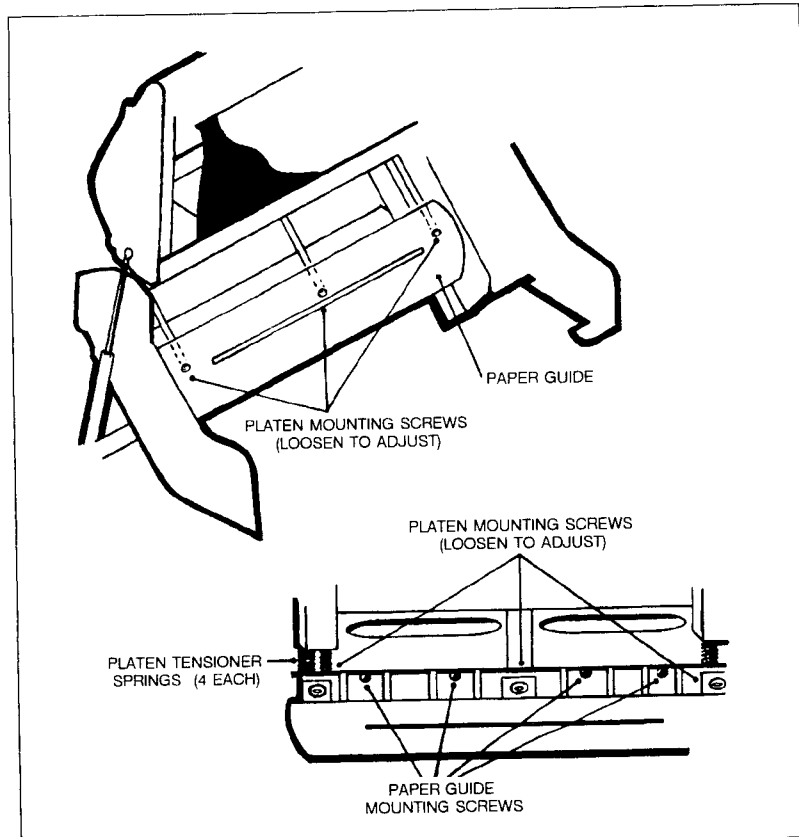

Figure 6-30. Platen Assembly Removal
- b. From the tighten the face plate screws to hold the AVBs up (off) the platen rail top of the printer (with the swing gate closed), remove the three 4 mm Allen screws securing the platen assembly to the printer chassis (see Figure 6-30).
- c. Raise the print mechanism swing gate to the fully open position and remove the platen with its plastic paper guide attached, being careful not to lose the four adjustment springs located behind the platen (see Figure 6-30).